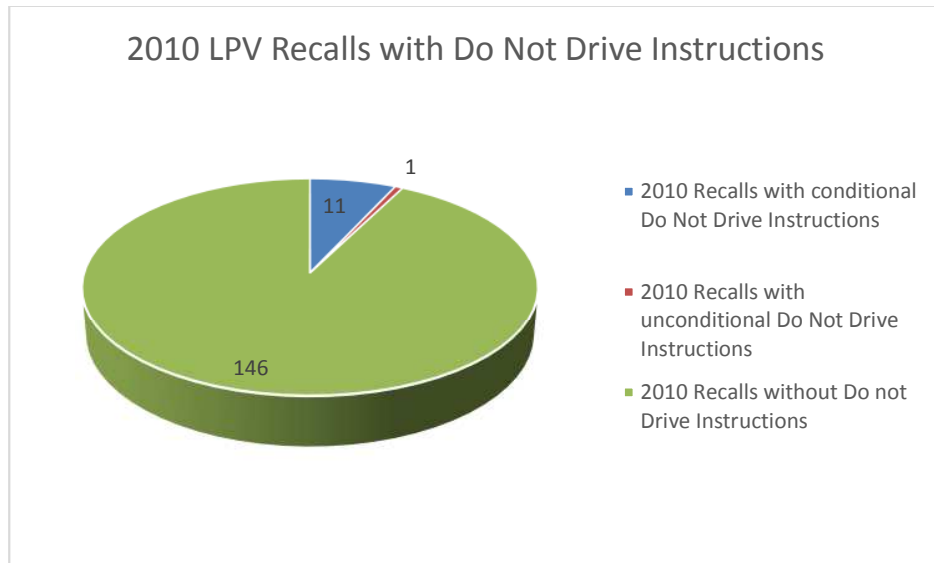

Figure 4. 2010 LPV Recalls with Do Not Drive Instructions
Twelve (12) of the one hundred fifty eight (158) 2010 LPV recalls contained “do not drive” (DND) instructions. Eleven (11) of those DND instructions were conditional upon owner detection of a defect (if you notice fluid leaks, or loss of power, or your engine stalls, etc..., then do not drive the vehicle). Only one recall (10v643) had an unconditional “do not drive” vehicle recommendation. In the graph in figure 4 this single recall is counted and categorized as a recall with “unconditional” DND instructions. For the text detailing the DND instructions for the 2011 LPV recalls see Appendix A-4.